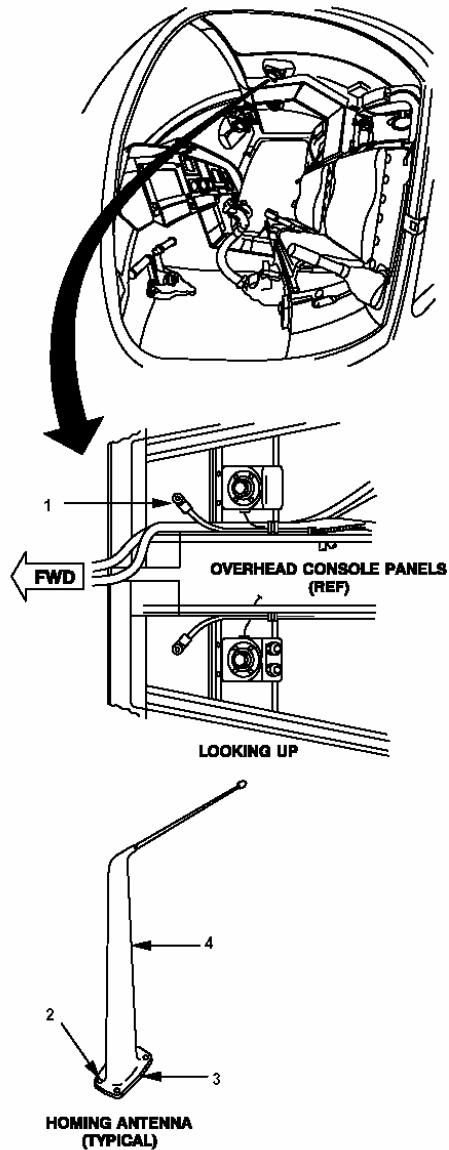

Figure 14
n. Remove FM Antenna. (See Figure 14)
(1) Disconnect coax connector (1) for left side.
(2) Remove old sealing compound from mounting screws (2), mount (3), and surrounding mounting surfaces using plastic scraper.
(3) Remove four mounting screws (2) from mount (3).
(4) Remove homing antenna (4).